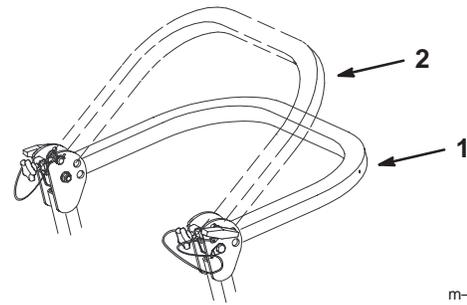

Figure 2
3. Lower the roll bar to the down position. There are two down positions. See Figure 2 for the positions.